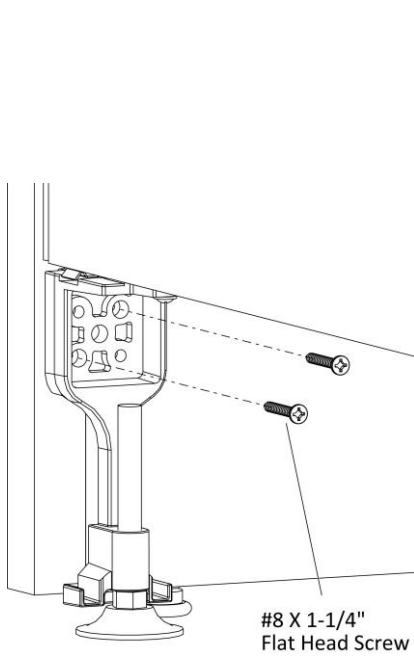

Figure 5
- Drive two #8 X 1-1/4" Flat Head Screws through the holes in the standard panel leg into the pre-drilled holes of the gallery panel, (Figure 5).